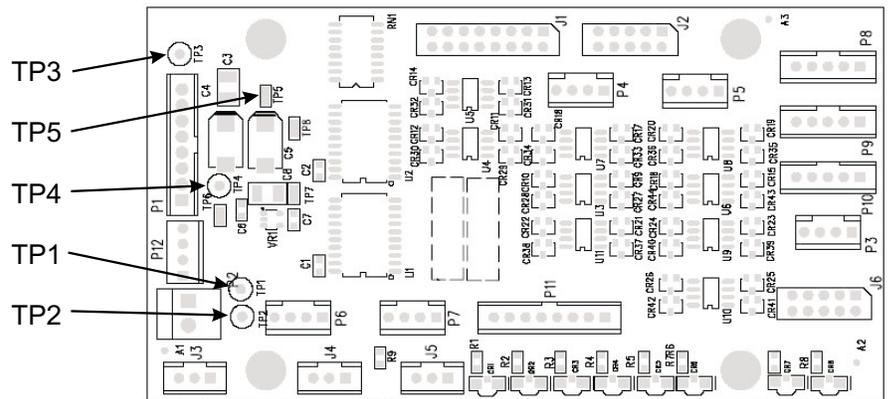

Figure 4-1. Power Supply Troubleshooting Connections
Step 7. Using a digital multimeter or an oscilloscope, measure the DC power supply voltages listed in Table 4-1 (following page) by connecting the digital multimeter or oscilloscope to the test points on the Controller PCB assembly (shown in Figure 4-1 on the following page).